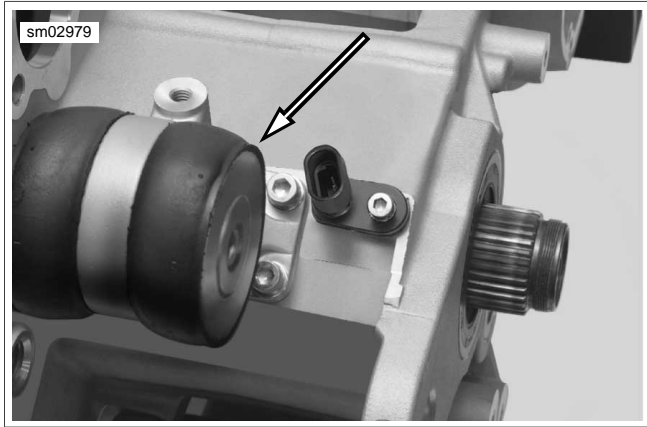

Figure 3-24. Rear Isolator Assembly
1. See Figure 3-24. Install rear isolator assembly by installing the two rear fasteners first and then the two forward fasteners (re-install with **new** fasteners). Tighten to 25-27 ft-lbs (33.9-36.6 Nm).